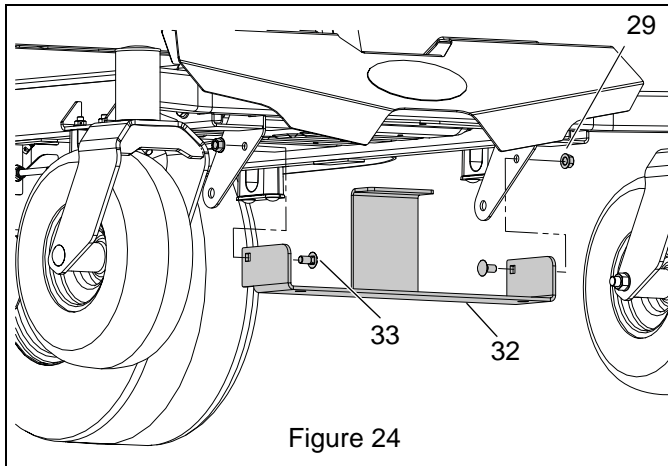

Figure 24
1. Install weight bracket (item 32) onto frame using two 3/8 x 3/4" round head square neck bolts (item 33) and two 3/8" locking top flange nuts (item 29). See Figure 24.